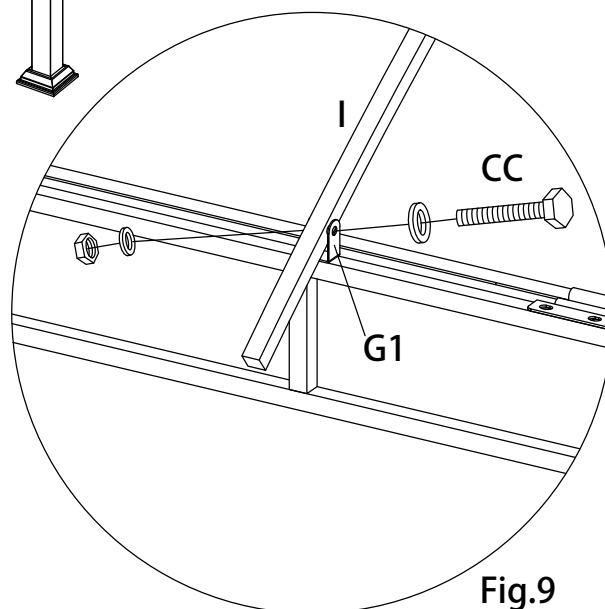

Fig.9
5.Insert the Central Device (J) into the Short Top Bracing (I) and connect the other end to the U-shape Connector (G1) and tighten with the Bolt (CC), See Fig.8-Fig.9.